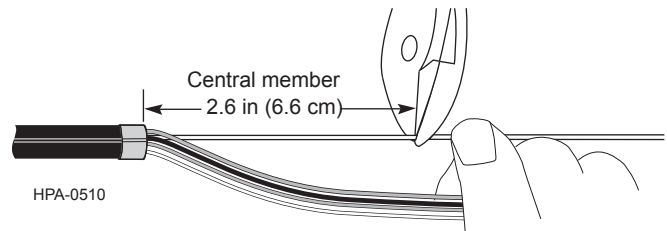

Figure 27
Step 13: Use side cutters to cut the dielectric central member to a length of 2.6 in (6.6 cm) from each end of the cable sheath (Figure 27).